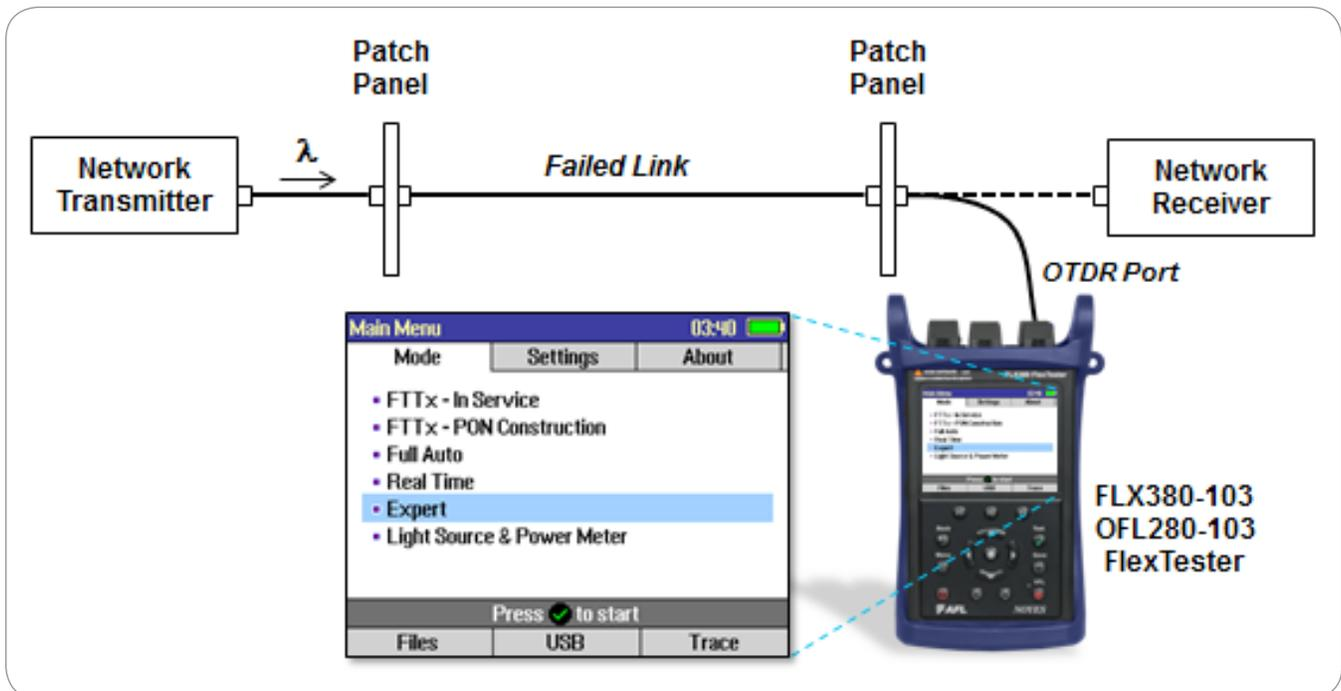

Figure 4: Connect fiber-under-test to OTDR port and select Full Auto or Expert mode.
- If the received power level is less than the PON overload threshold, the FlexTester's 1625 nm OTDR can be used to test the live fiber for faults such as fiber breaks, poor splices, micro- or macro-bends, and damaged or dirty connectors. To do so, disconnect the fiber-under-test from the FlexTester's OPM and connect it to the OTDR port. From the main menu, select either the Full Auto or Expert OTDR mode and press the "Select" key , as shown in Figure 4.